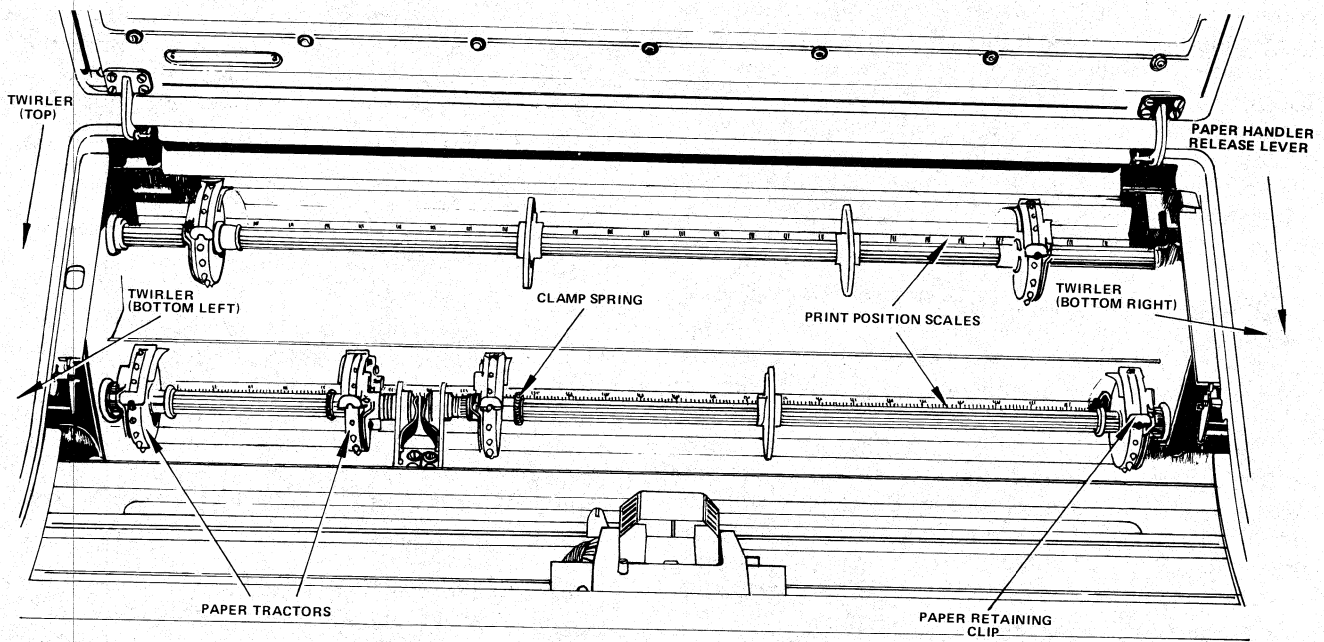
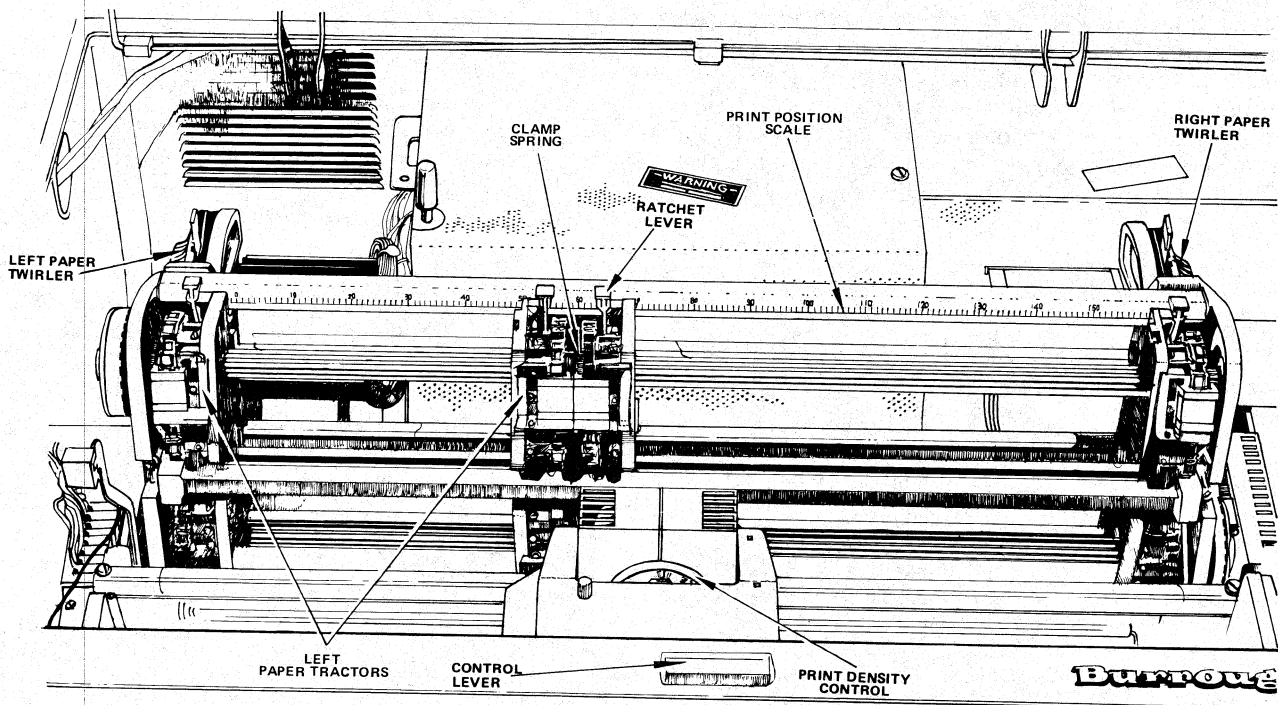

Figure 2-7. 180 cps Paper Handler
Figure 2-8. 120 cps Paper Handler
Each pin-feed drive can be driven by the use of a Thumbwheel, or Paper Twirler. The locations of the Paper Twirlers on the 180 cps Paper Handler are shown in figure 2-7. The locations of the Paper Twirlers and Fine Alignment Levers on the 120 and 60 cps Printers are shown in figures 2-8 and 2-9. The system should be switched ON while the position of the paper is being adjusted.
- a. On the 180 cps Printer raise the Paper Handler Release Lever (shown in figure 2-7), and lift the Printer Cover.
- b. On the 120/60 cps Printers (see figures 2-8 and 2-9) pull the Cover Latch forward, lift the Printer Cover, push back the Paper Handler Release Lever and lift the Paper Handler to its upper (open) position.